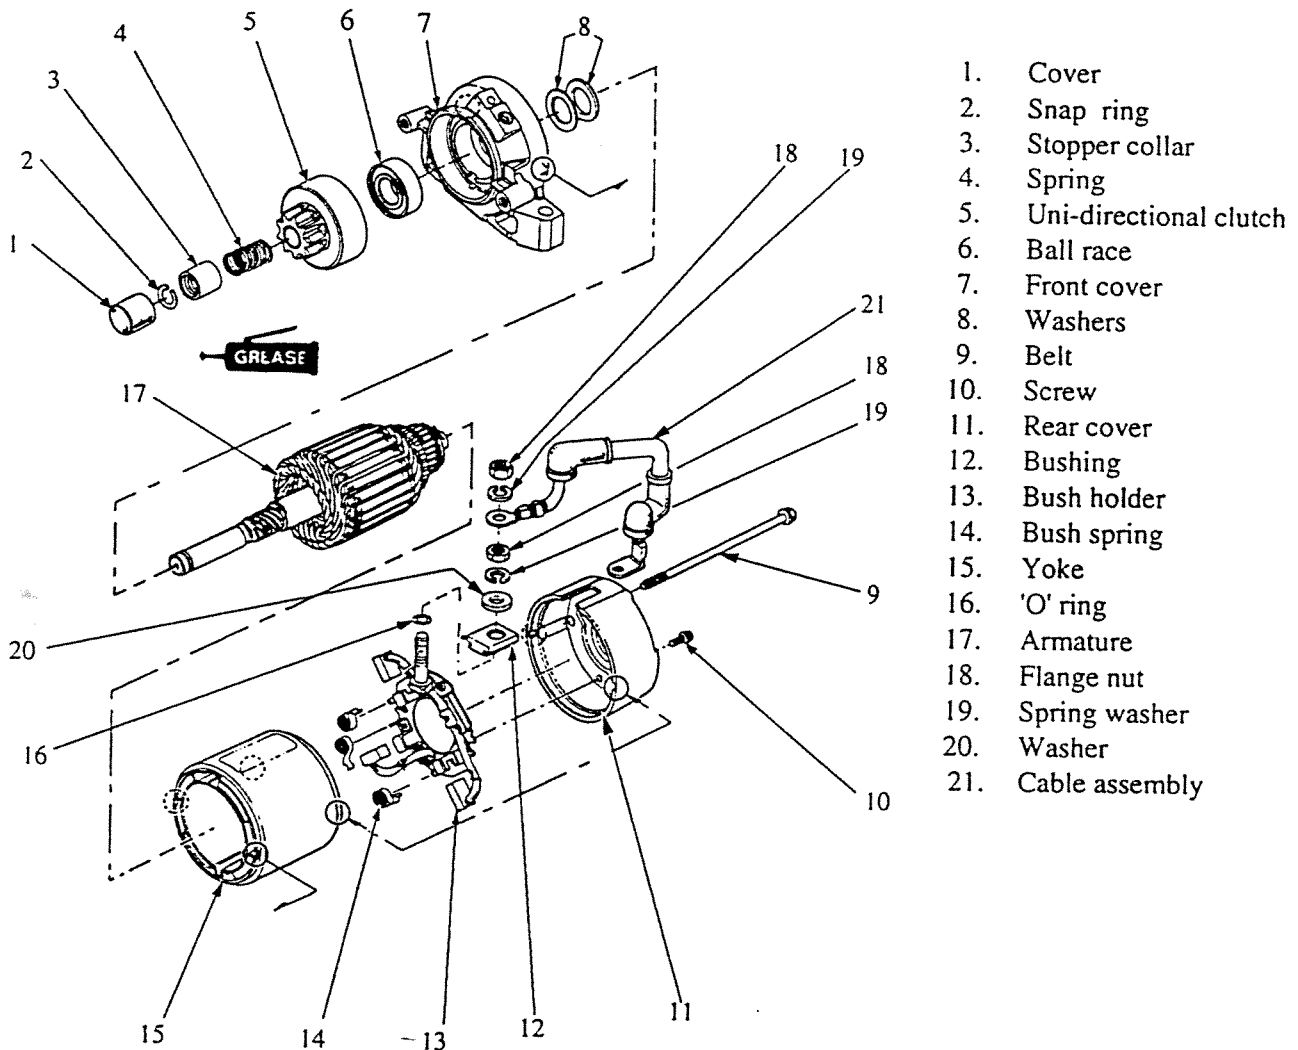

Fig. 34-24. Starter Motor Components
With the brushes reinstalled to their holders, check for any continuity between the brushes (Fig. 37-28). Should continuity exist, install a new brush-holder assembly. To do this, unscrew the nut (18) and two screws (10) securing it to the end cover (11). See Fig. 34-24.